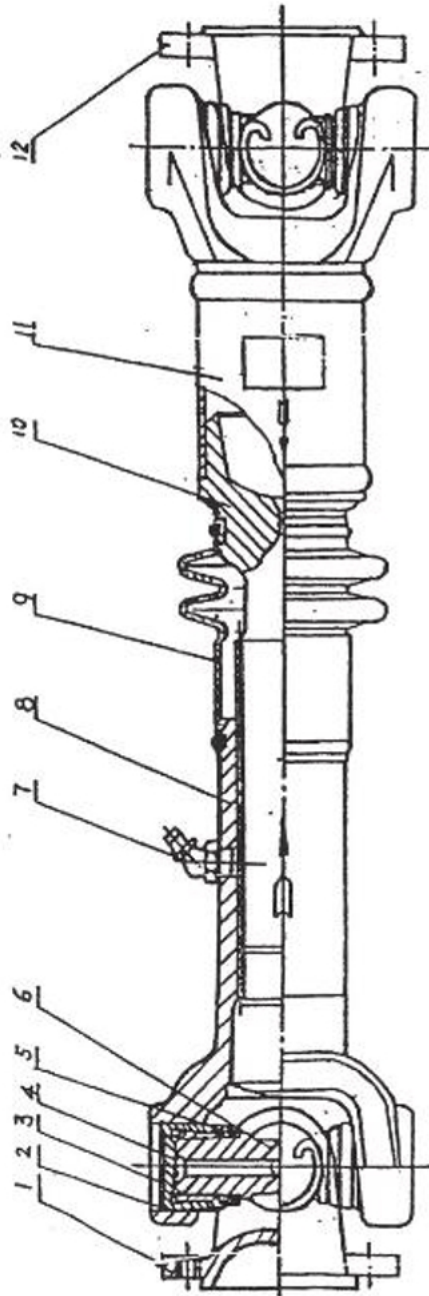

Figure 2-10: Universal Joint Drive Shaft
The drive shaft consists mainly of universal joint, expansion bend and drive shaft. The universal joint consists of universal joint folic (1), snap ring (2), roller ptn(3), cross axle(6) universal joint sleeve fork (8) (see Figure 2-10), with the main function to, when the angle changes, transmit the torque and rotate. The expansion bend is composed of one pair of internal and external- splines so as to allow the expansion of the total drive shaft length, but the length of the splines should ensure that in any operation conditions, the drive shaft will not drop off or dieback. The drive shaft pipe is the round tube made of rolled steel plates, which is used to transmit the torque for rotation.